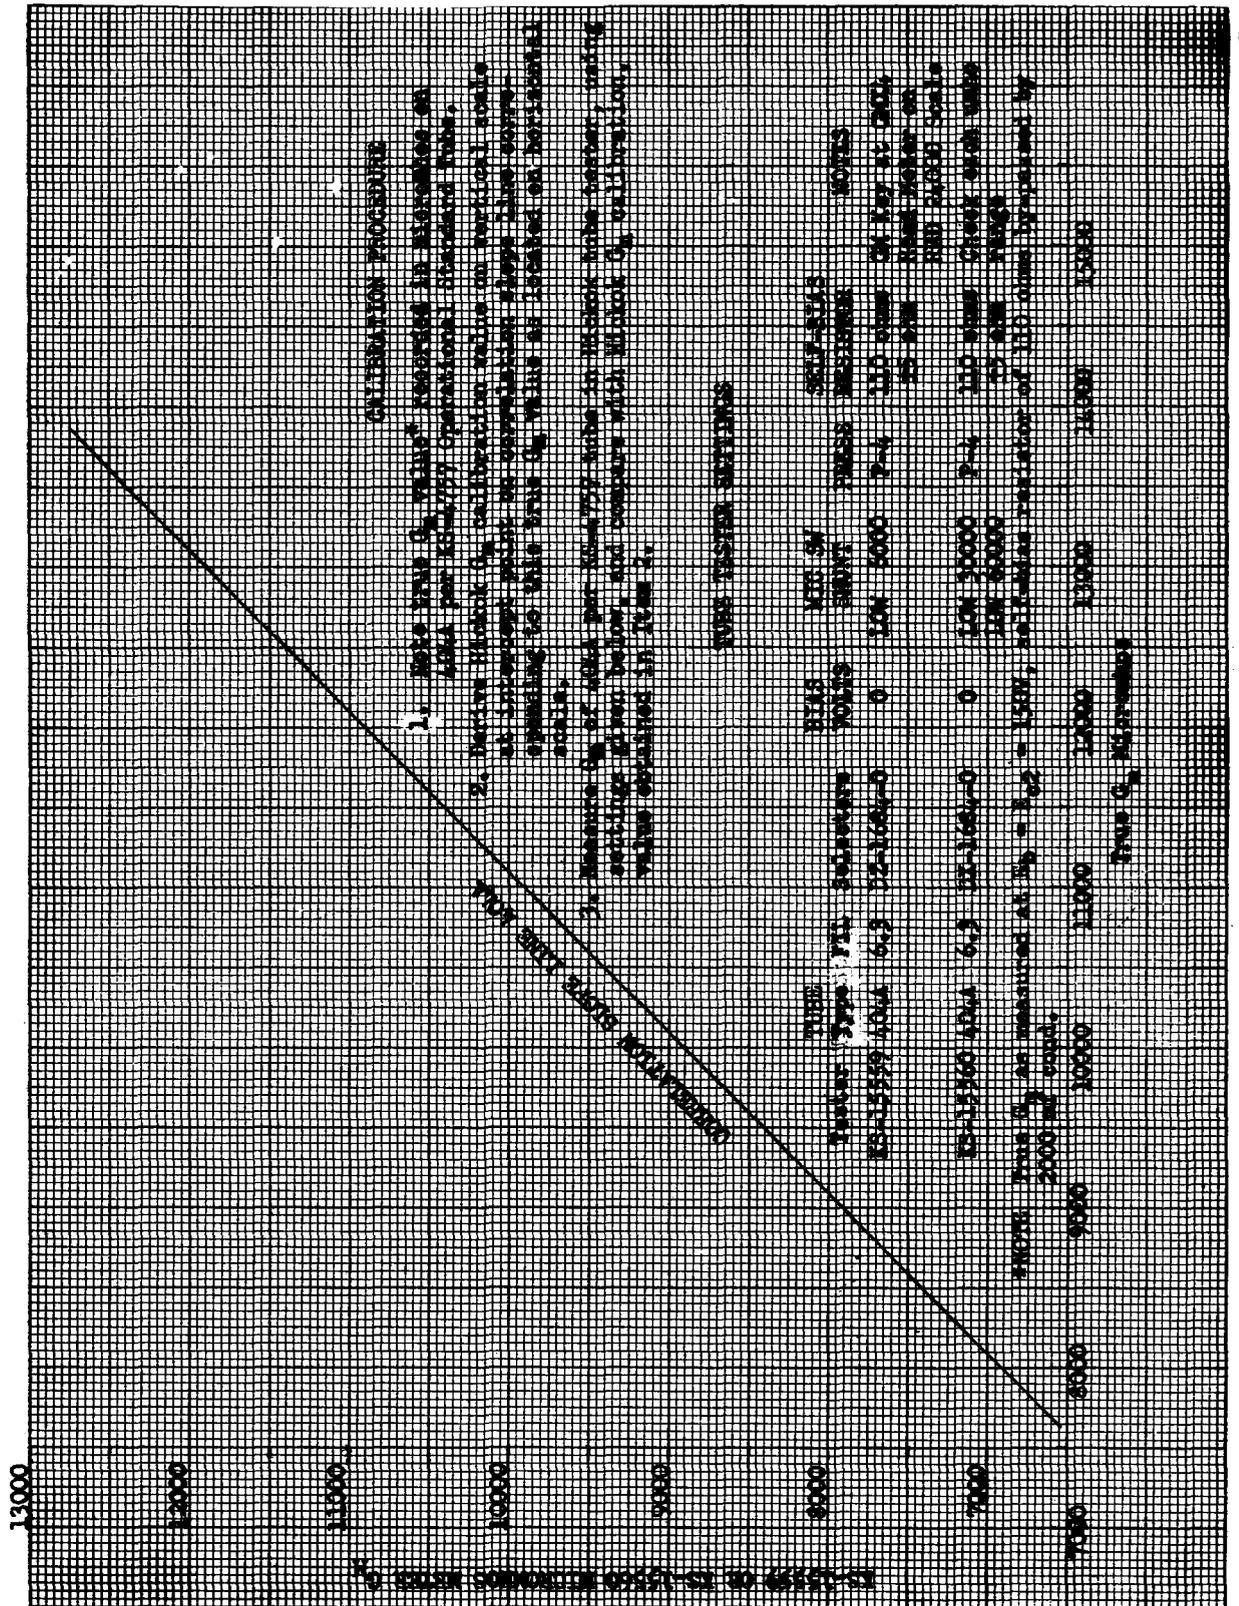

Fig. 8 - Calibration Data, 404A per KS-4757
5.11 LOW SIGNAL 30,000 (1/2 volt) Grid Signal Test - Self-bias Operation: An operating test is made using a Western Electric Company operational standard 404A tube per KS-4757. The calibration chart (Fig. 8) for this tube is used to establish the Hickok Gm micromhos reading as described on this chart. This Hickok Gm value will be used as the standard value with which the measured Gm is compared. This operating test is made in accordance with the tube tester settings noted on the calibration chart (repeated here) with CATH. ACT. switch at NORMAL and the proper self-bias resistor connected across the unstrapped SELF BIAS binding posts. The micromhos meter reading is compared with the derived calibrated value for this tube.
Requirement: The measured Gm should be within  $\pm 6$  per cent of the value derived from Fig. 8 for the true Gm marked on the operational standard tube.